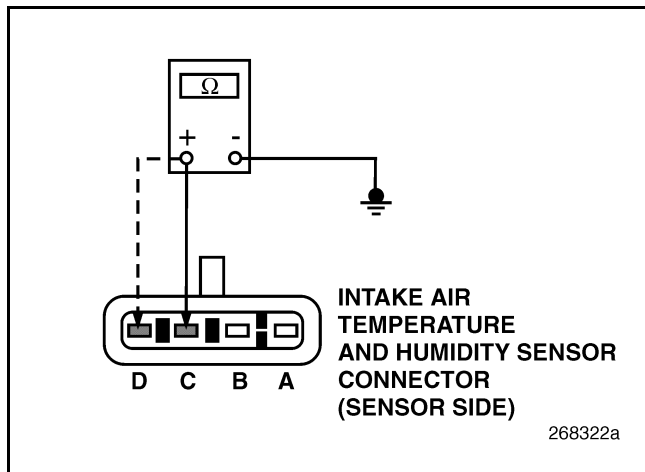

Figure 294
3. Check for continuity between pin C of the IATH Sensor and a good ground (see Figure 294).
Check for continuity between pin D of the IATH Sensor and a good ground (see Figure 294).